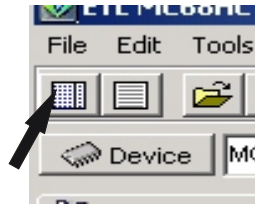

Figure 4 (Editor button)
9) Click Editor Button for preview a dump contents and edit data in case of necessary (see Figure 4).